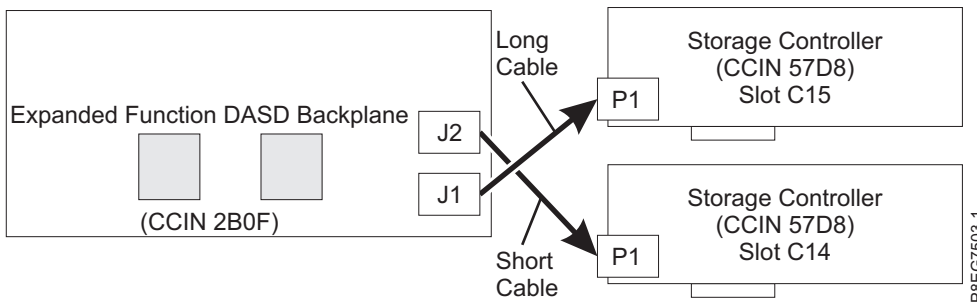

Figure 20. Reconnecting the SAS cable in an expanded-function configuration
- The long SAS cable connects the lower disk drive backplane connector (J1) to the P1 connector on the SAS RAID internal adapter in slot P1-C15. See Figure 20.